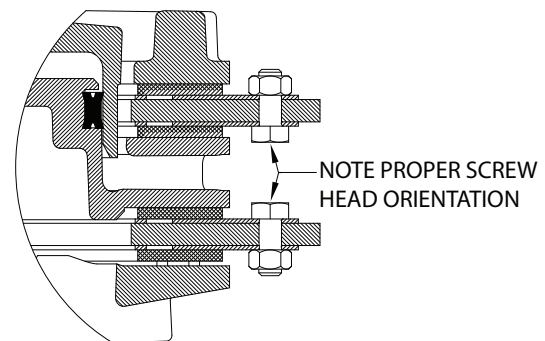

Figure 9 : Friction Shoe Screw Head Orientation
- 4.1.4 Position one new friction shoe (2) on the each side of the friction disc core (1) and assemble with new hex head screws (3) and hexagon nuts (4). Note the orientation of the heads of the hex head screws and hexagon nuts, as shown on **Figure 9**.